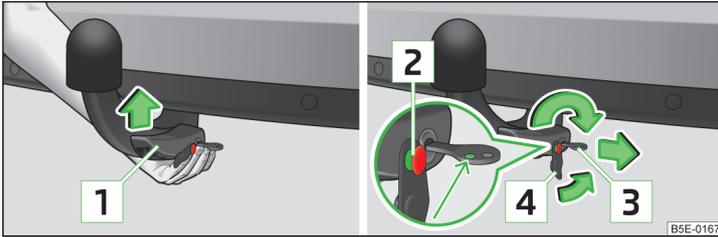

Fig. 157 Insert the ball head/lock the lock, and put the lock cover on
- ▶ Grip the tow bar **from underneath** » Fig. 157 and insert into the mounting recess until you hear it click into place » **!**.